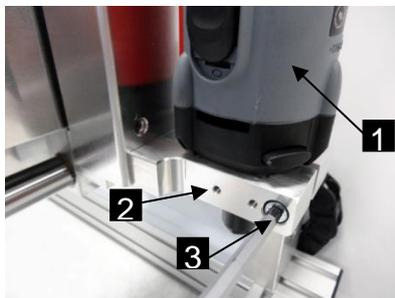

Figure 24: Tool holder with milling
- 1 Tool, for example milling motor with 43mm neck Euro (Fig. 24/1) insert in the tool holder (Fig. 24/2) on the Z carriage.
- 2 Tighten screw (Fig. 24/3) lightly until a clamping is done
- Never tighten the screw (Fig. 24/2) for fixing the milling motor, excessively.